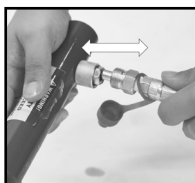

Fig.8
- a. Release pressure and disconnect the Ram (4) from the pump Assembly (1) (Fig 8).